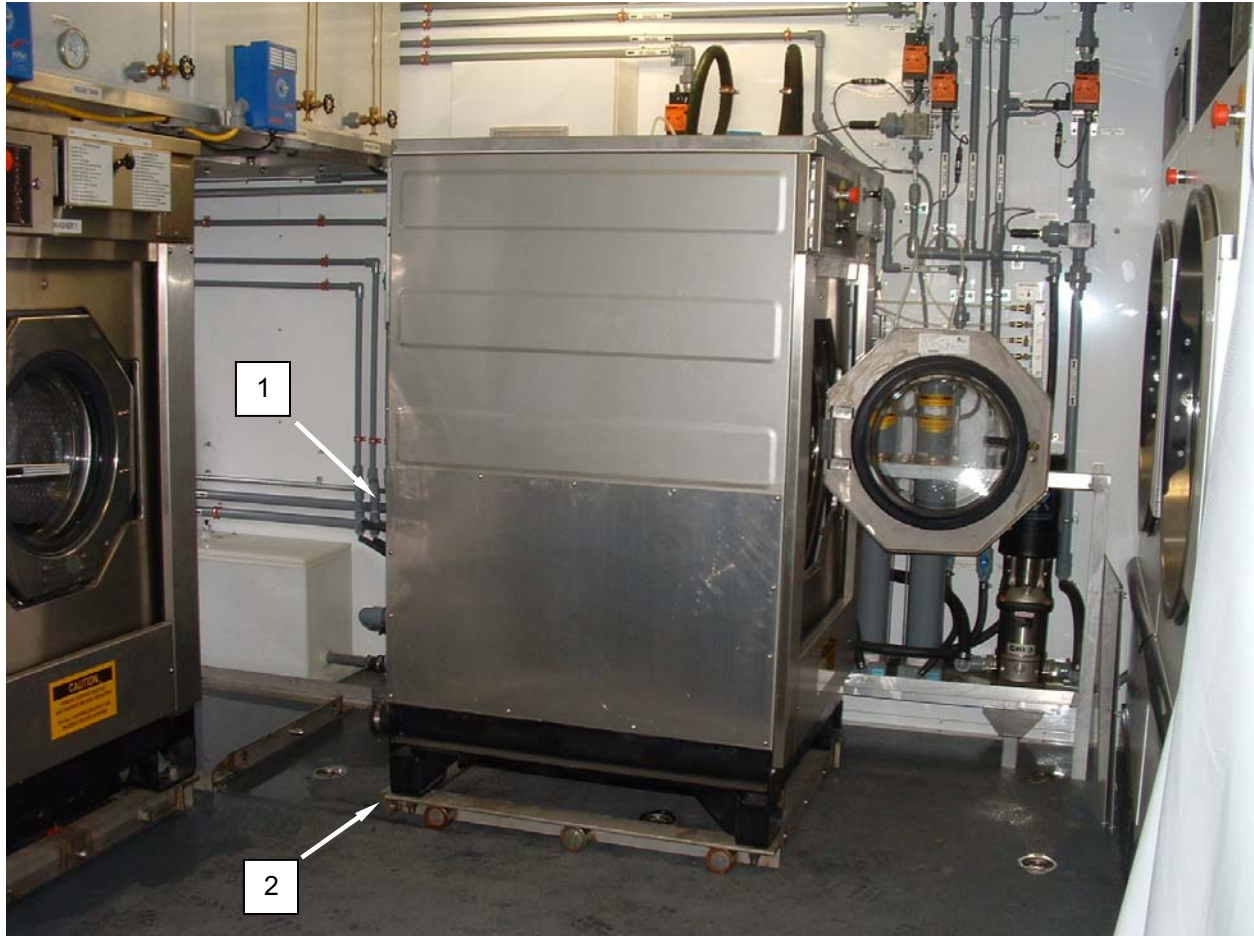

Figure 1. Replace the Washer.
3. Remove bolts retaining washer (**Figure 1, Item 1**) to caster (**Figure 1, Item 2**).
4. Use a forklift or suitable lifting device to lift washer (**Figure 1, Item 1**) from caster (**Figure 1, Item 2**) and remove from CBL.
5. Use a forklift or suitable lifting device to install the replacement washer (**Figure 1, Item 1**) into the washer caster (**Figure 1, Item 2**) and retain with bolts.